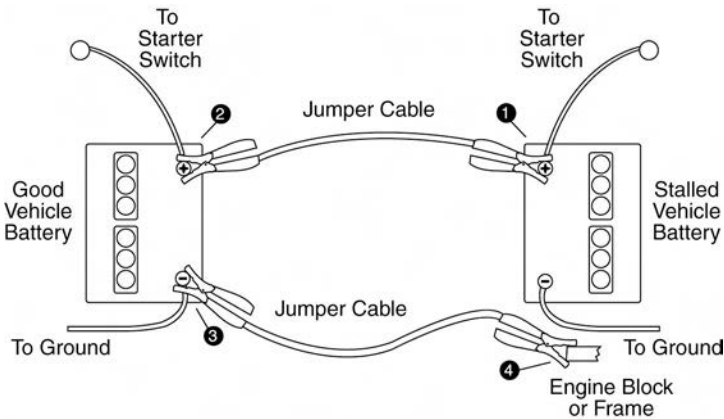

Figure 6A. Attaching Jumper Cables
- d. Attach the other end of the second jumper cable to the engine block of the disabled vehicle. Do not attach the cable to the negative terminal of the “dead battery” or to the carburetor, fuel line, tubing, or moving parts. See Figure 6A.